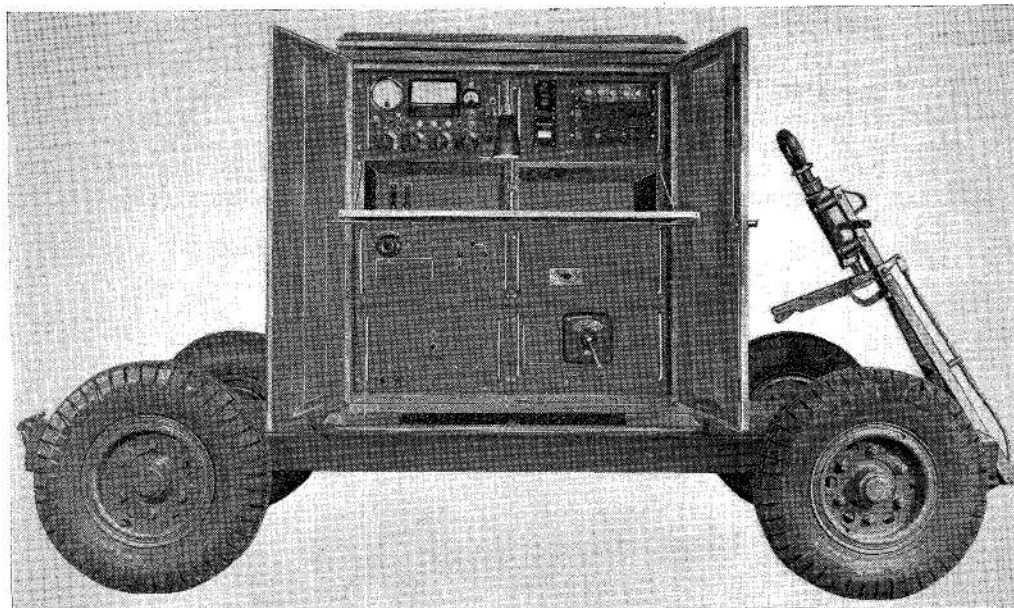

Fig. 2. Front view of equipment, showing control panels
3. The test equipment consists of six rack-mounted test units housed in a large metal cabinet which is mounted on a four wheel trailer with pneumatic tyres. The positions of the individual units are shown in Fig. 2. A large bench is provided on which the system amplifier and manuals may be accommodated during testing. Twin doors conceal and protect the units when the test equipment is not in use. A built-in cupboard at the rear of the cabinet, houses the test cables and dummy amplifier. The equipment is mounted on a tubular surround which serves as a protection and an anti-vibration mounting.